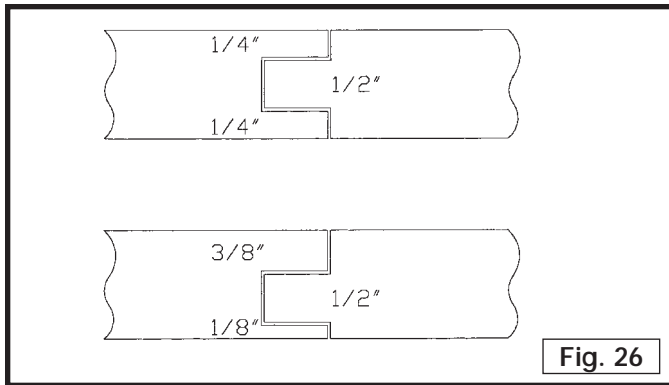

Fig. 26
- The objective is to make the parts fit closely together. Maximize the gluing surface by making the tenon as long as possible (approximately 1/2 the width of the stile or longer, if using narrow stock). Balance the joint by using the same amount of wood in the tenon as in the combined thickness of the mortise walls (Fig. 26). If one piece of wood is larger than the other, make the tenon as thick as possible (Fig. 27).